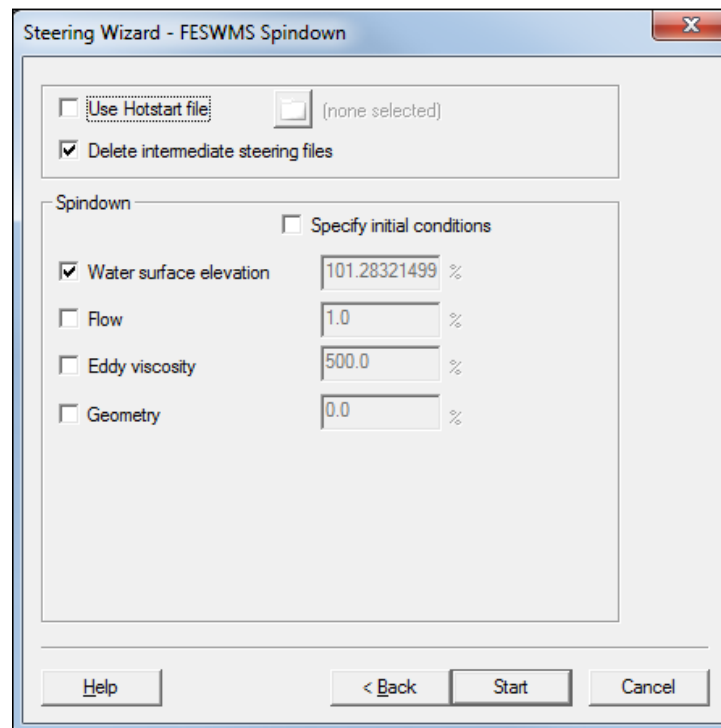

Figure 9 Steering Module dialog
4. In the *Spindown* section, turn on *Water Surface Elevation* and turn off all other options in the *Spindown* section (Figure 9).